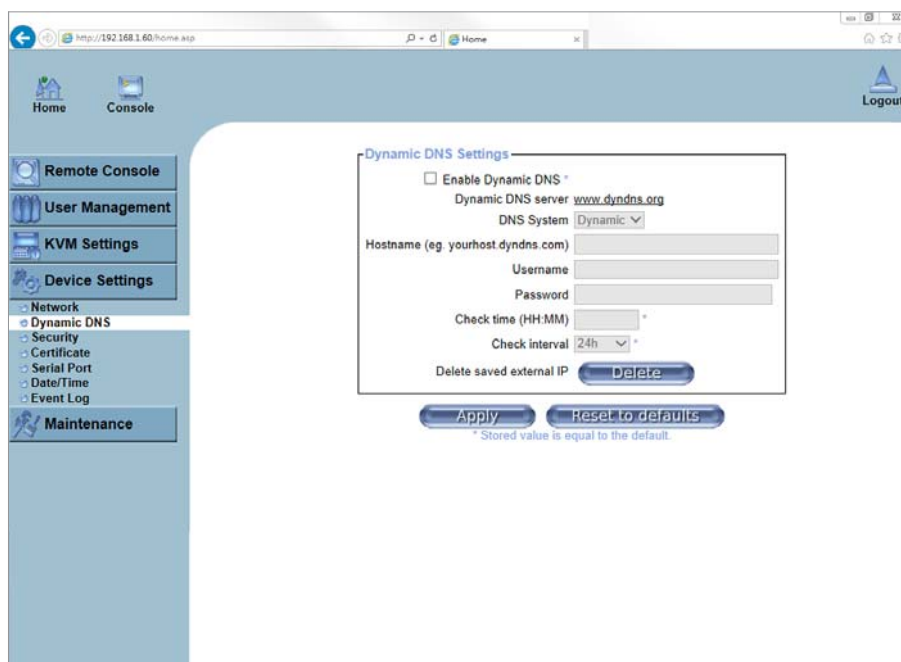

Figure 3-10. Dynamic DNS
- Enter the Dynamic DNS Settings configuration dialog as shown in Figure 3-10.